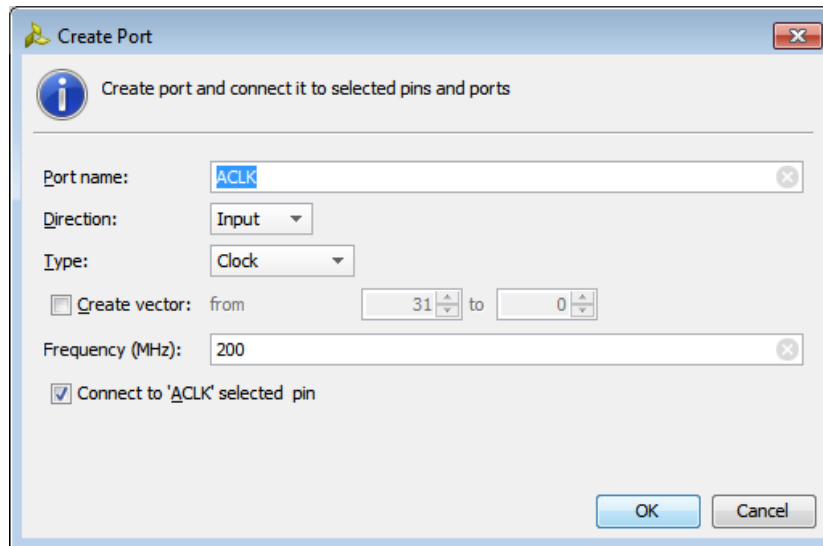

Figure 13: Create Port - ACLK
5. In the **Create Port** dialog box, as shown in Figure 13, specify the **frequency** as **200 MHz**.